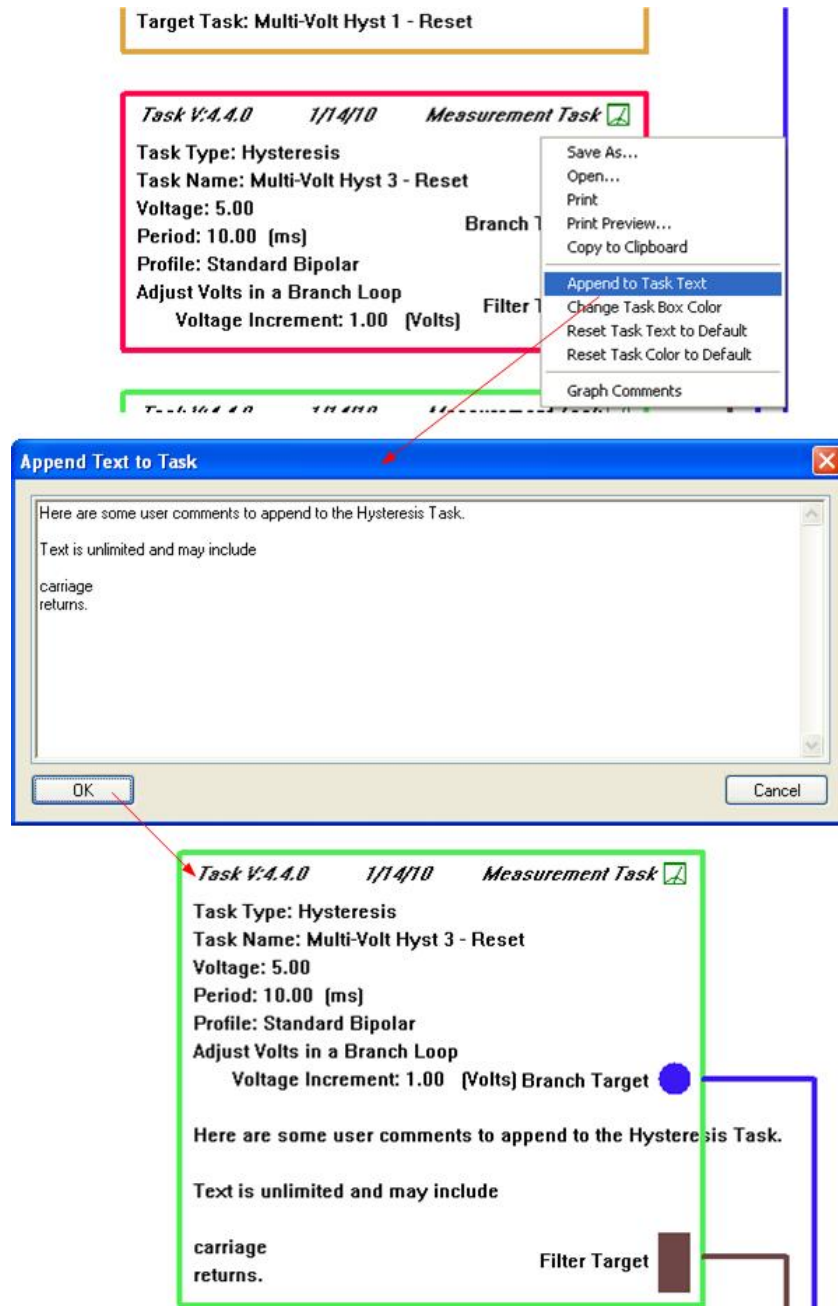

Figure 13 - Appending User Text to the Task Text.
- The additional text is appended to the bottom of the text in the Task box and the box is extended. Note that the text can overrun the box limits as in **Figure 13**.